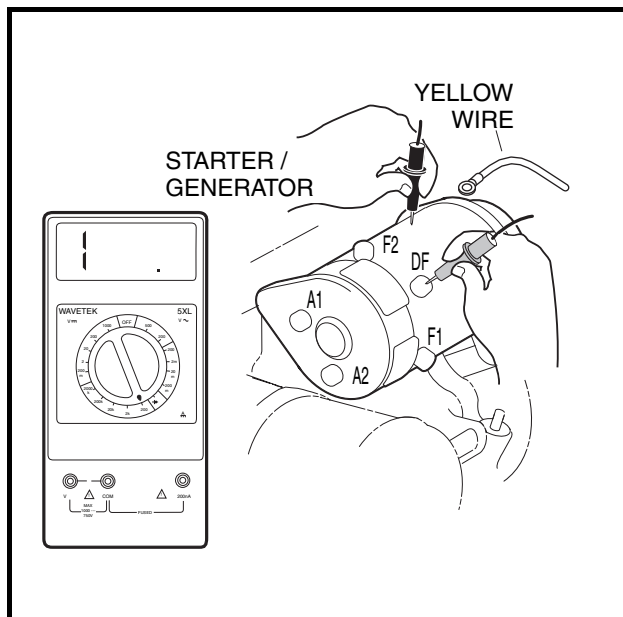

Figure 11-17 Check Starter Terminal Continuity – Model G425419 shown
4. Disconnect the wires from all the terminals on the starter/generator. Then place the black (–) probe of a multimeter, set to ohms, on the starter/generator housing (scratch through the finish to ensure a good ground). While holding the black probe against the housing, place the red (+) probe (one at a time) on the A1, A2, F1, F2 and DF terminals respectively (**Figure 11-17, Page 11-19**). The readings should be no continuity. If the readings are incorrect, the starter/generator will need to be removed from the vehicle and disassembled by a qualified technician. **See Starter/Generator Removal, Section 12, Page 12-1.**